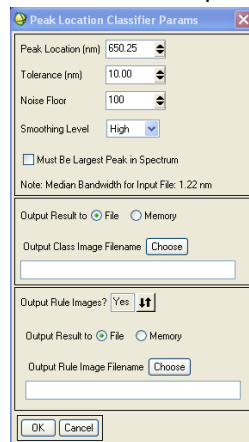

Figure 3. Peak Location Classifier Params Box
4. The Peak Location Classifier Params dialog opens (see Figure 3.) Here you will enter several parameter values that are used to decide how to process the image.